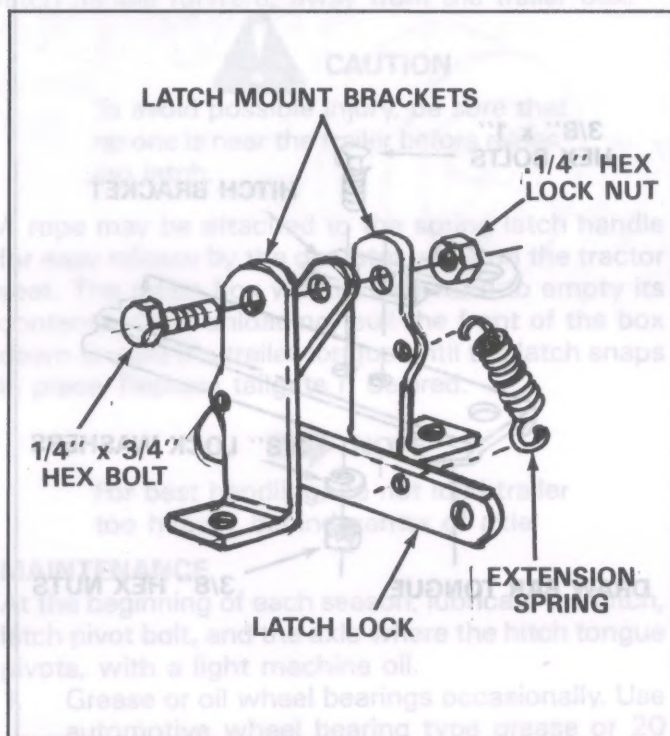

FIGURE 9
15. Assemble two latch mount brackets, latch lock and extension spring using one 1/4" x 3/4" hex bolt and 1/4" hex lock nut. See figure 9. **Do not tighten** 1/4" lock nut, latch lock must pivot freely.